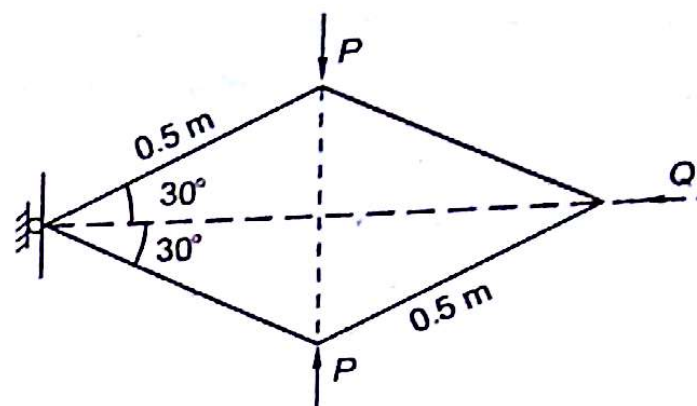

Fig. 9.39
9.8 Determine the horizontal reaction Q from the frame consisting of a rhombus of sides 0.5 m as shown. Frame carries two loads P as shown in Fig. 9.39